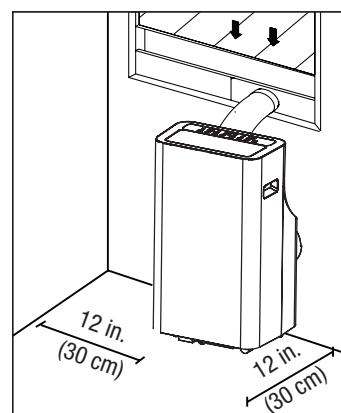

FIG. 4
- Allow at least 12 inches (30cm) of space from the wall for efficient air-conditioning. (See Fig 4.)